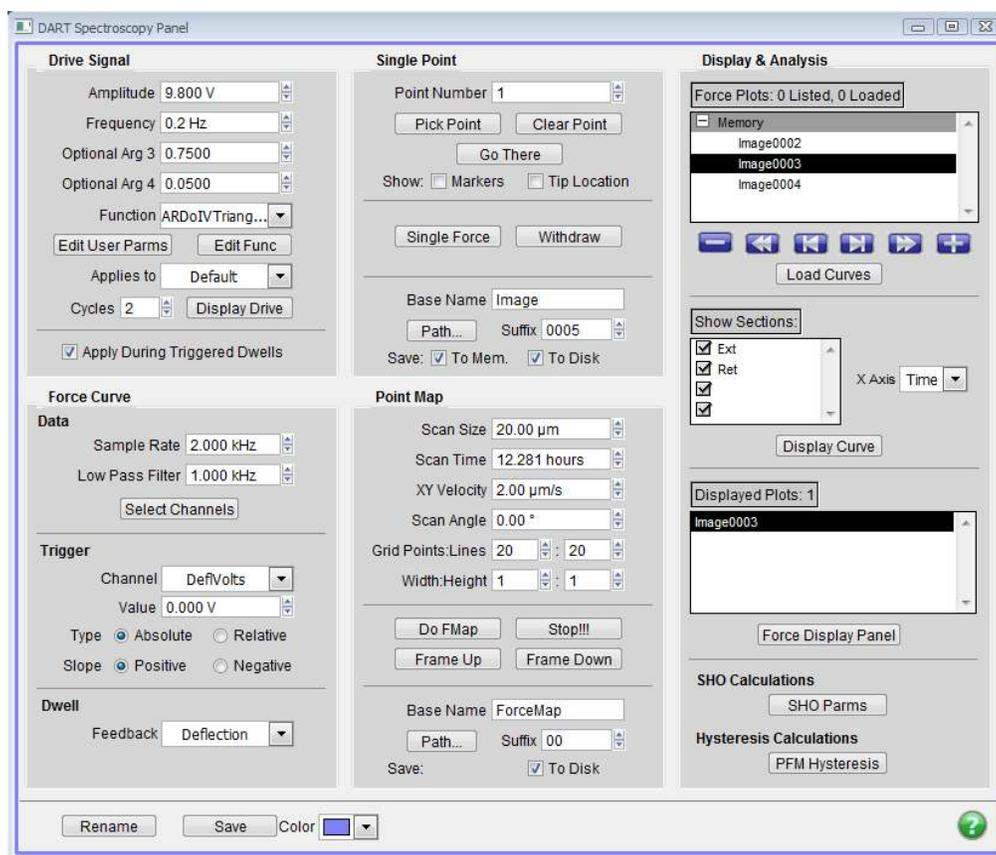

Figure 6.3.: The DART Spectroscopy Panel
2. On the Spectroscopy Panel panel (Figure 6.3 on page 54), go to the *Drive Signal* group of controls.